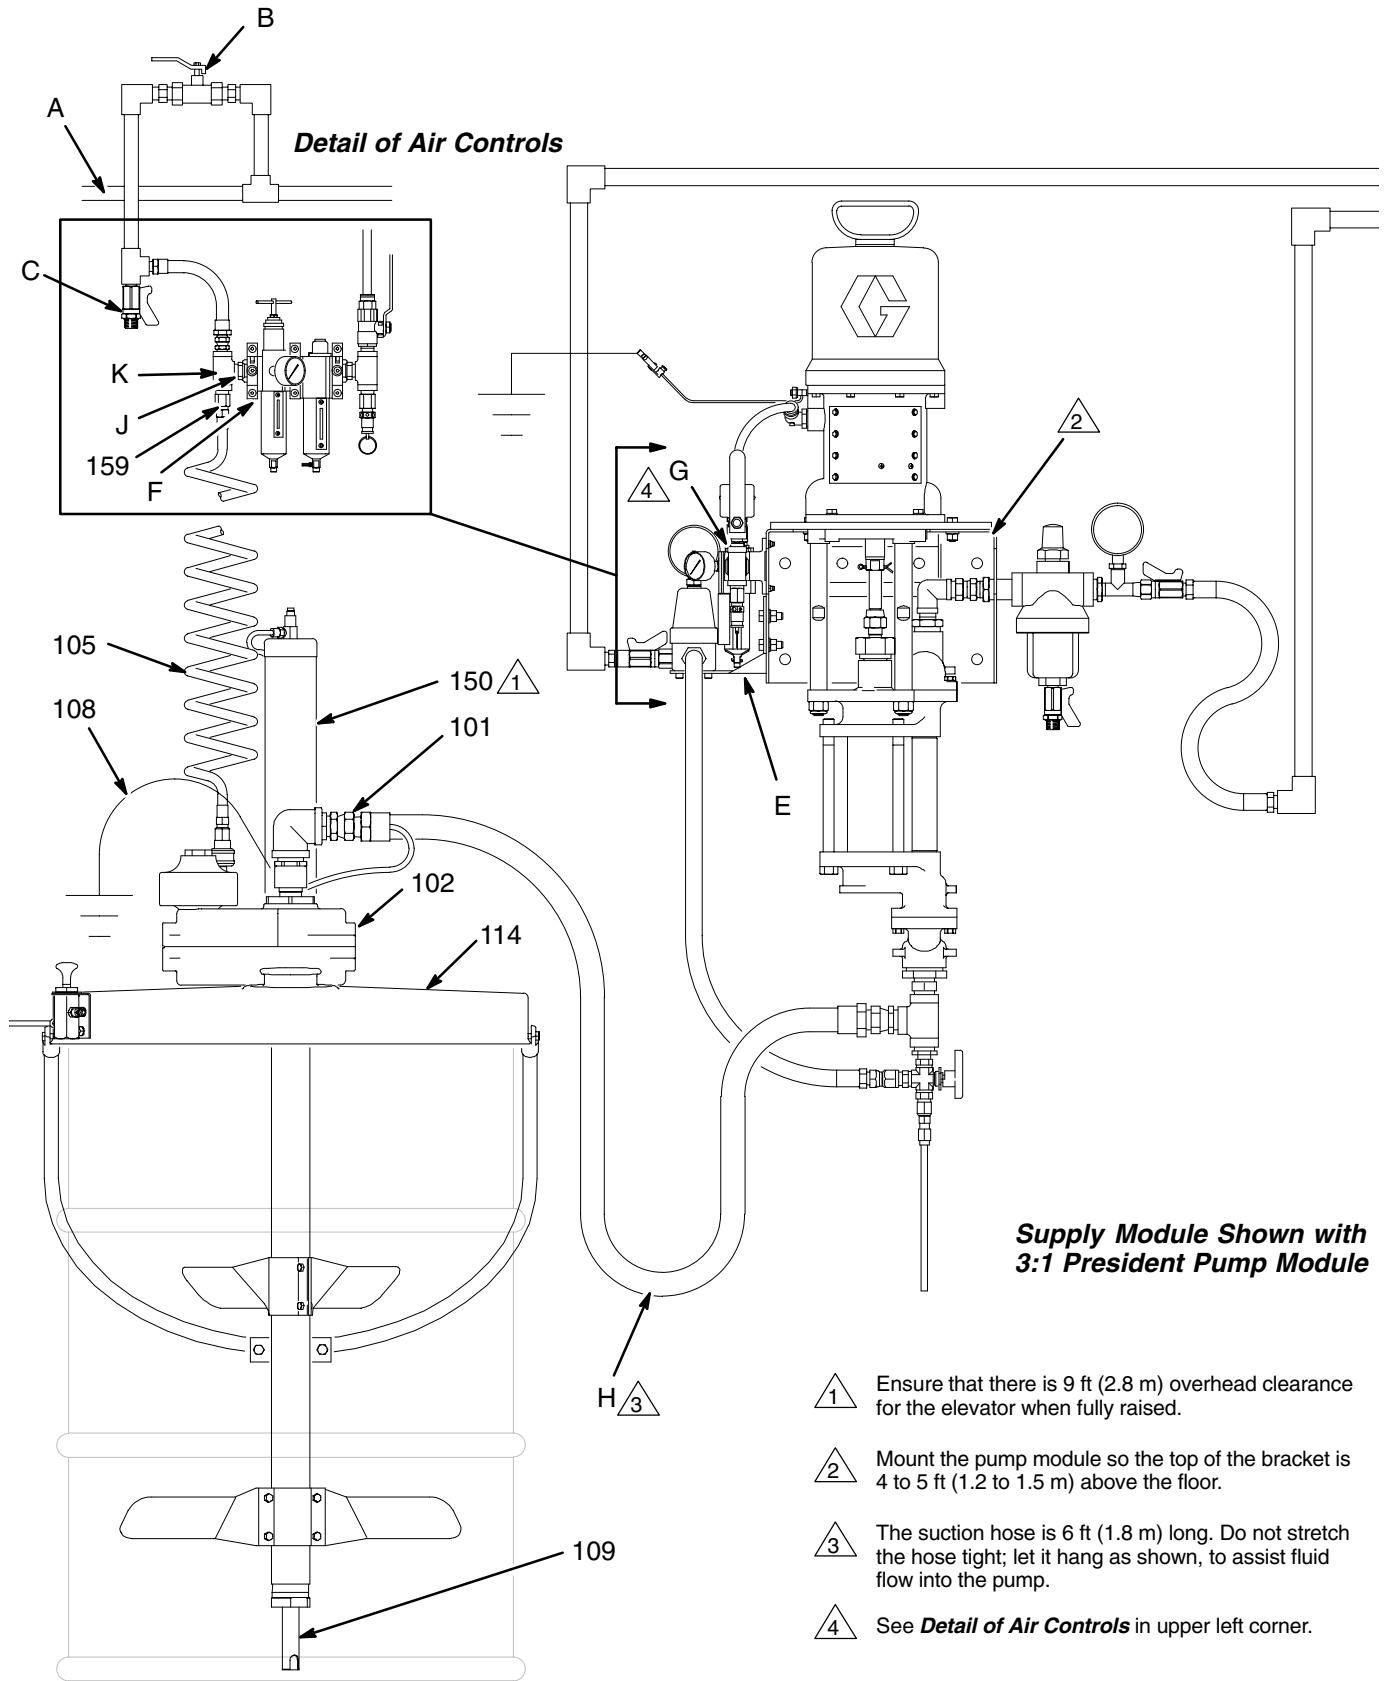

Fig. 1
Refer to Fig. 1. Bring a compressed air supply line (A) from the air compressor to the supply module location. Be sure all air hoses are properly sized and pressure-rated for your system. Use only electrically conductive hoses. The air hose should have a 3/8 npt(m) thread.
**NOTE:** Refer to Fig. 1 and to the Dimension drawing on page 14 and the Mounting Hole Layout on page 15.
1. Ensure that there is at least 9 ft (2.8 m) overhead clearance for the elevator (150) when fully raised.
2. Remove and discard the existing suction tube at the end of suction hose (H).
3. Locate the elevator (150) so the pump's suction hose (H) will reach the swivel (101) at the top of the back-gearred agitator (102). The suction hose is 6 ft (1.8 m) long. Do not stretch the hose tight; let it hang as shown in Fig. 1, to assist fluid flow into the pump.
5. Connect the suction hose to the swivel outlet (101) of the agitator (102). Connect the suction hose ground wire to the ground lug on the agitator as shown on page 8.
6. Loosen the captive screw and open the quick connector (F) on the air filter/regulator/lubricator assembly (G).
7. Slide the pipe adapter (J) out of the quick connector (F). Remove and discard the pipe plug from the bottom port of the tee (K).
8. Bring the coiled hose (105) up through the large hole in the back pressure regulator's bracket (E).
9. Screw the adapter (159) at the end of the coiled hose (105) into the tee (K).
10. Slide the pipe adapter (J) into the quick connector (F), close, and tighten the captive screw.
Refer to Fig. 1.
- Fluid is supplied to the pump through the **suction tube (109)**. The suction tube is installed in the shaft of the agitator (102). See Fig. 1.
- **The back-gearred agitator (102)** keeps the fluid in suspension and also includes a suction tube (109) to draw fluid from a 55 gallon drum.
- **The air-operated elevator (150)** allows you to raise the drum cover and agitator from an empty drum, replace the drum, and lower the agitator into the new drum.
- **The stainless steel drum cover (114)** fits a 55 gallon (200 liter) drum.